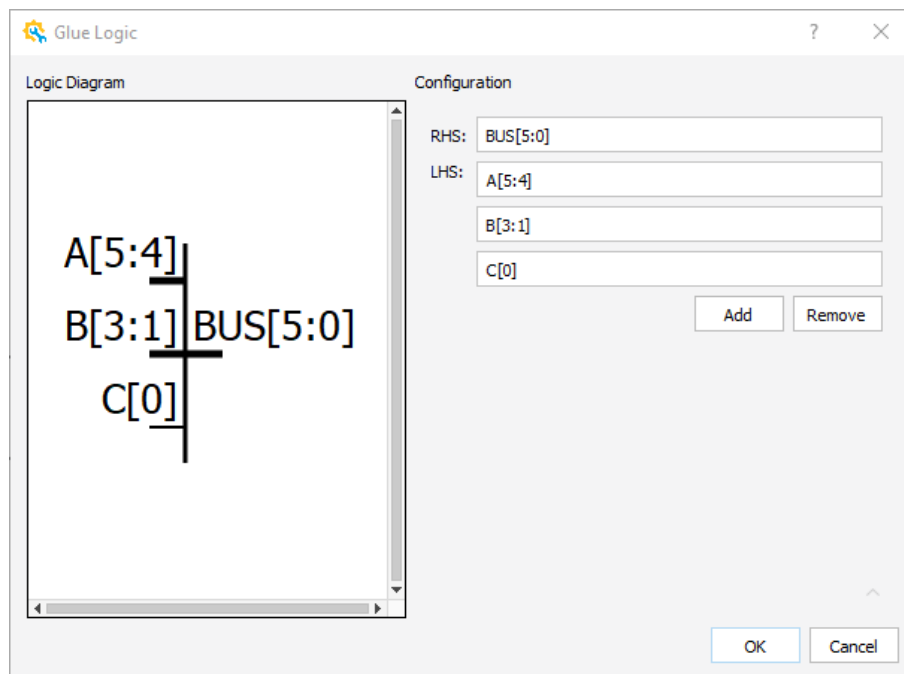

Figure 2.51. Glue Logic for Concat Module
1. From the IP Catalog, select the **concat** module. Double-click the concat module or drag and drop concat module to the Schematic view. A Glue Logic wizard (Figure 2.51) pops up.